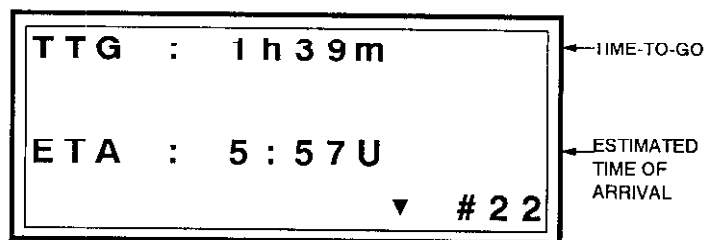

Figure 5-2 Typical TTG display
8. Press the **ENT** key. Figure 5-2 shows what the display might look like using waypoints KOBE and OSAKA as the TO and FROM waypoints.